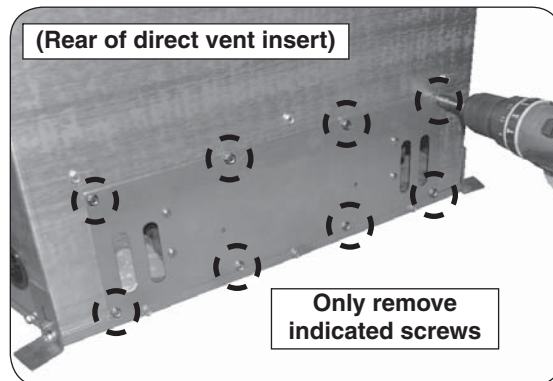

Fig. 51-1 Unfasten rear panel
3. Remove the 8 securing hex screws and the rear panel (fan assembly attached) using a $\frac{5}{16}$ " nut driver or equivalent. See Fig. 51-1.